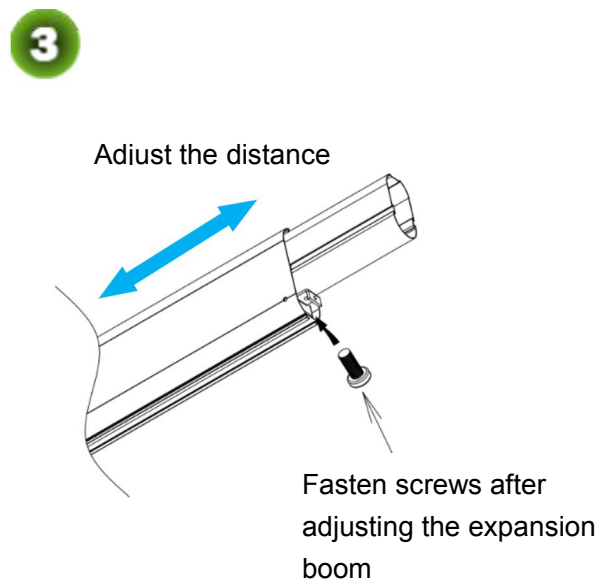

Figure 2-4C
- 4) Adjust the length of the expansion boom (only for 4M and 5M device), and fasten the screw, as shown in Figure 2-4C.